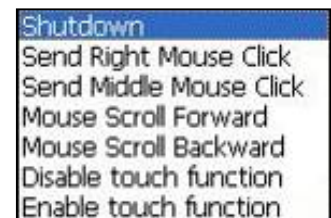

Fig.62
- d-4. **Action Configure Button.** Configure to make use of **PenMount Gesture AP's** built-in shortcuts. So that when a particular gesture is sensed, a specific action will be taken. **PenMount Gesture AP** have the following shortcuts built in: (Fig.62)